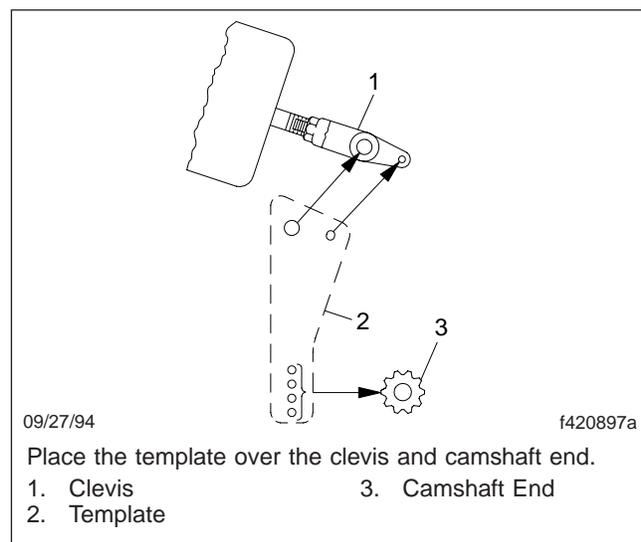

Fig. 6, Template Placement
- 7.8 With the brakes fully released, place the installation template over the clevis and camshaft end. See Fig. 6.